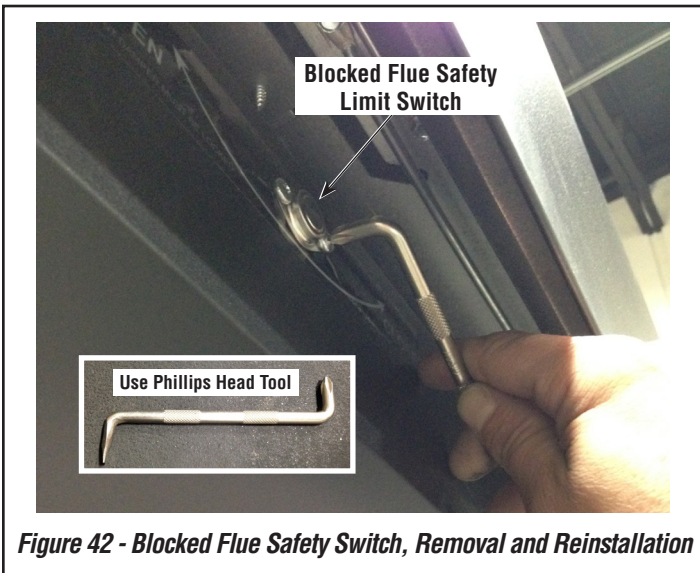

Figure 42 - Blocked Flue Safety Switch, Removal and Reinstallation
This appliance is equipped with a manually-reset blocked flue safety limit switch. Refer to **Figure 42** for its location. If, during appliance operation, the flame goes out (independently of the burner on/off wall switch), it may be due to the operation of this safety limit switch. **First allow the appliance to cool**, then reset the safety switch by pressing the red reset button on the back of the switch.
To access the blocked flue safety limit switch, refer to **Figure 42**:
1. To access the blocked flue safety switch, remove the two (2) phillips head screws (shown in **Figure 42**) and pull out switch.